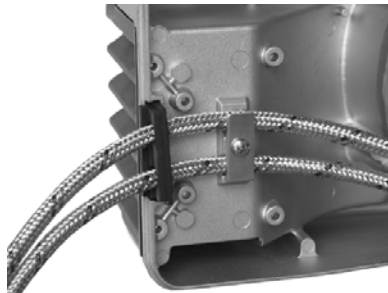

Fig. 27
- 4 Fix the flexible hoses as showed on Fig. 27.